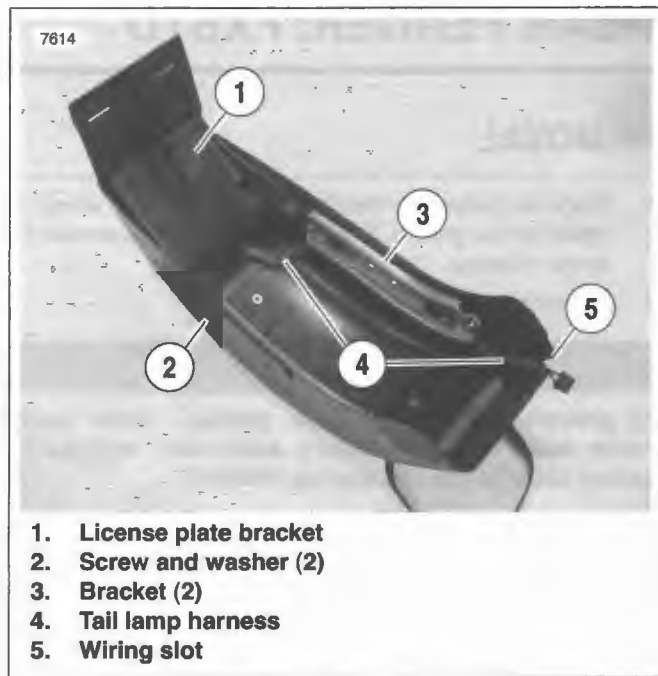

Figure 2-138. Rear Fender
1. See Figure 2-138. Remove two screws and washers (2) to detach license plate bracket (1) from rear fender.
2. Remove tail lamp harness (4) from behind bracket (3) if necessary.
1. See Figure 2-138. Place tail lamp harness (4) behind bracket (3) if removed. Harness runs along same side as wiring slot (5).
2. Secure license plate bracket (1) using two screws and washers (2). Tighten to 144-180 in-lbs (16.3-20.3 Nm).